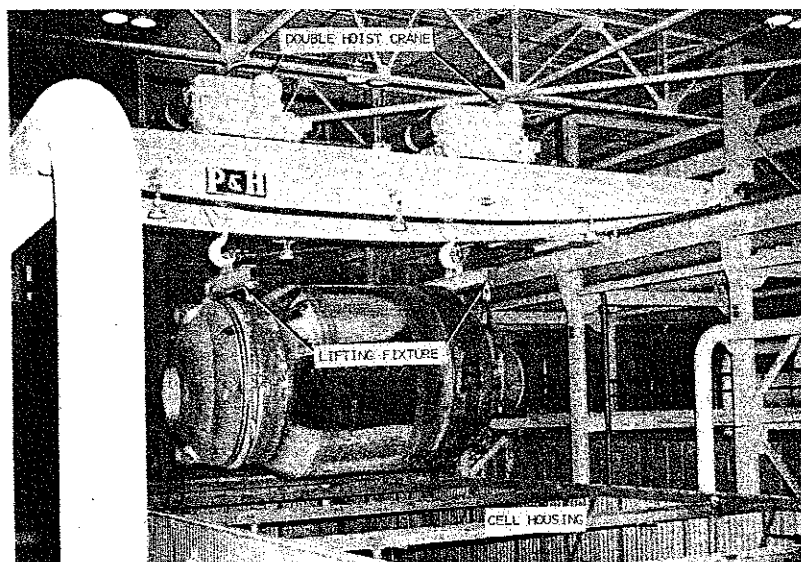

FIG. 5 CONVERTER REMOVAL
- b. Lift converter free of base. Keep the converter level by adjusting lift of double hoist crane before raising it clear of PG lines. (Fig. 5)